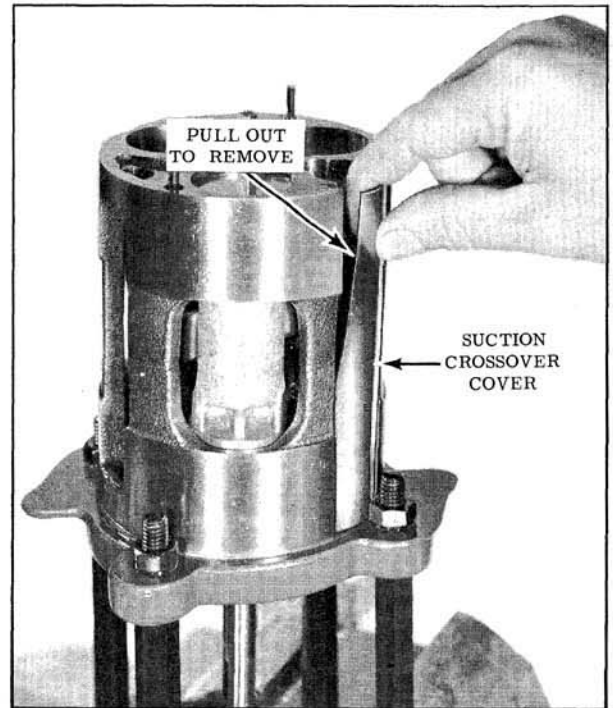

Fig. 14-123 Removing Suction Crossover Cover
1. Remove the suction crossover cover. (Fig. 14-123)